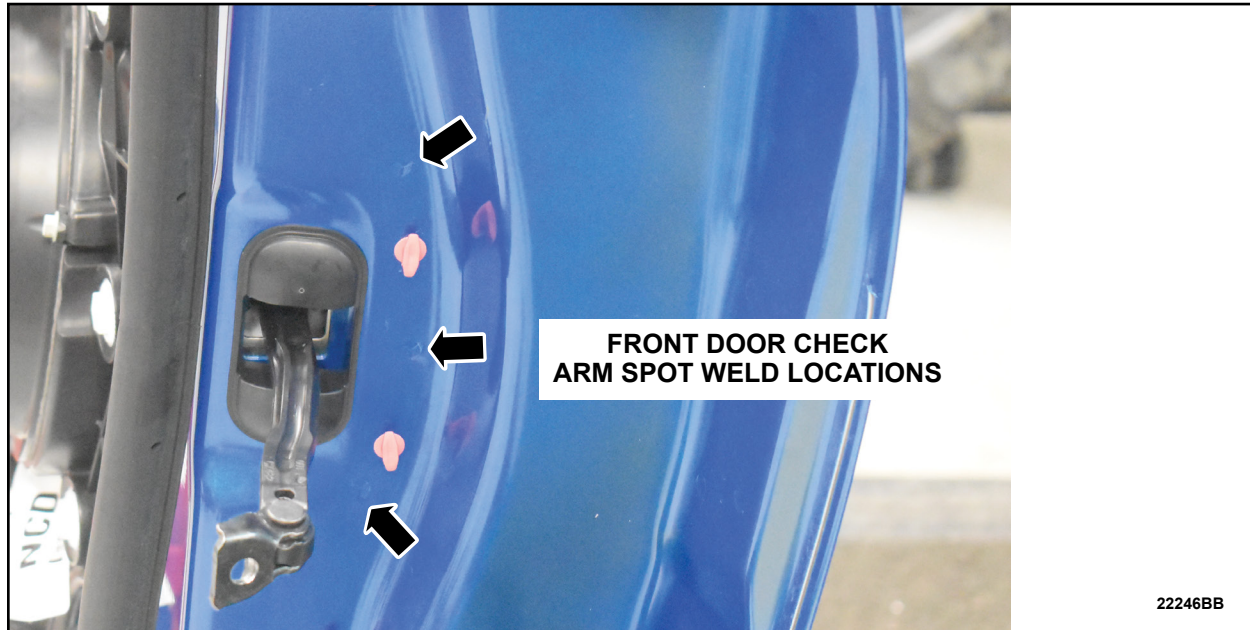

FIGURE 2
3. During the following inspection you will need to determine if the front door check arm bracket spot welds are cracked or separated from the door inner on both front doors. Locate the 3 spot welds under the door mounted weatherstrip as shown in Figure 2.